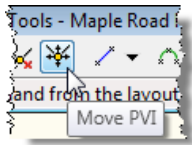

Figure 13
10. Adjust the new VPI's to have the same elevation using the Move PVI command from the Profile Layout Tools (Figure 13). In this case, set the elevations in both profiles to 921.20.